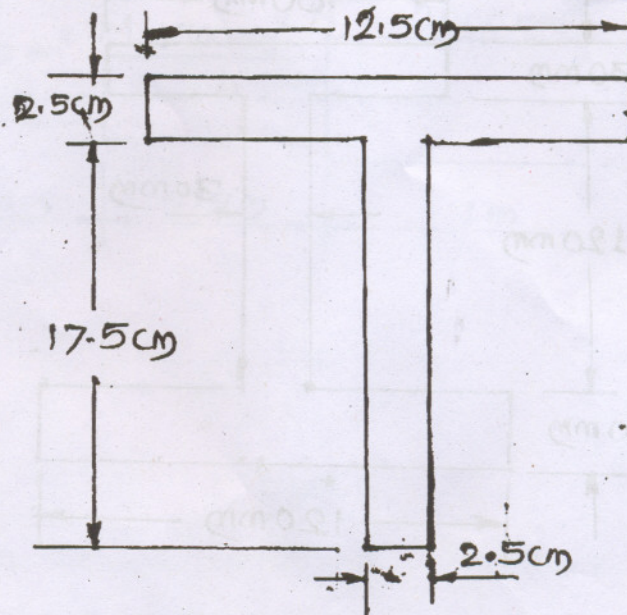

Fig. 3
- (c) A SSB carries U.D.L. of intensity 2.5 kN/m over its entire span of 5 metres. The cross-section of the beam is a T-section having the dimensions as shown in Fig. 3. Calculate maximum shear stress for the section of the beam. [6]